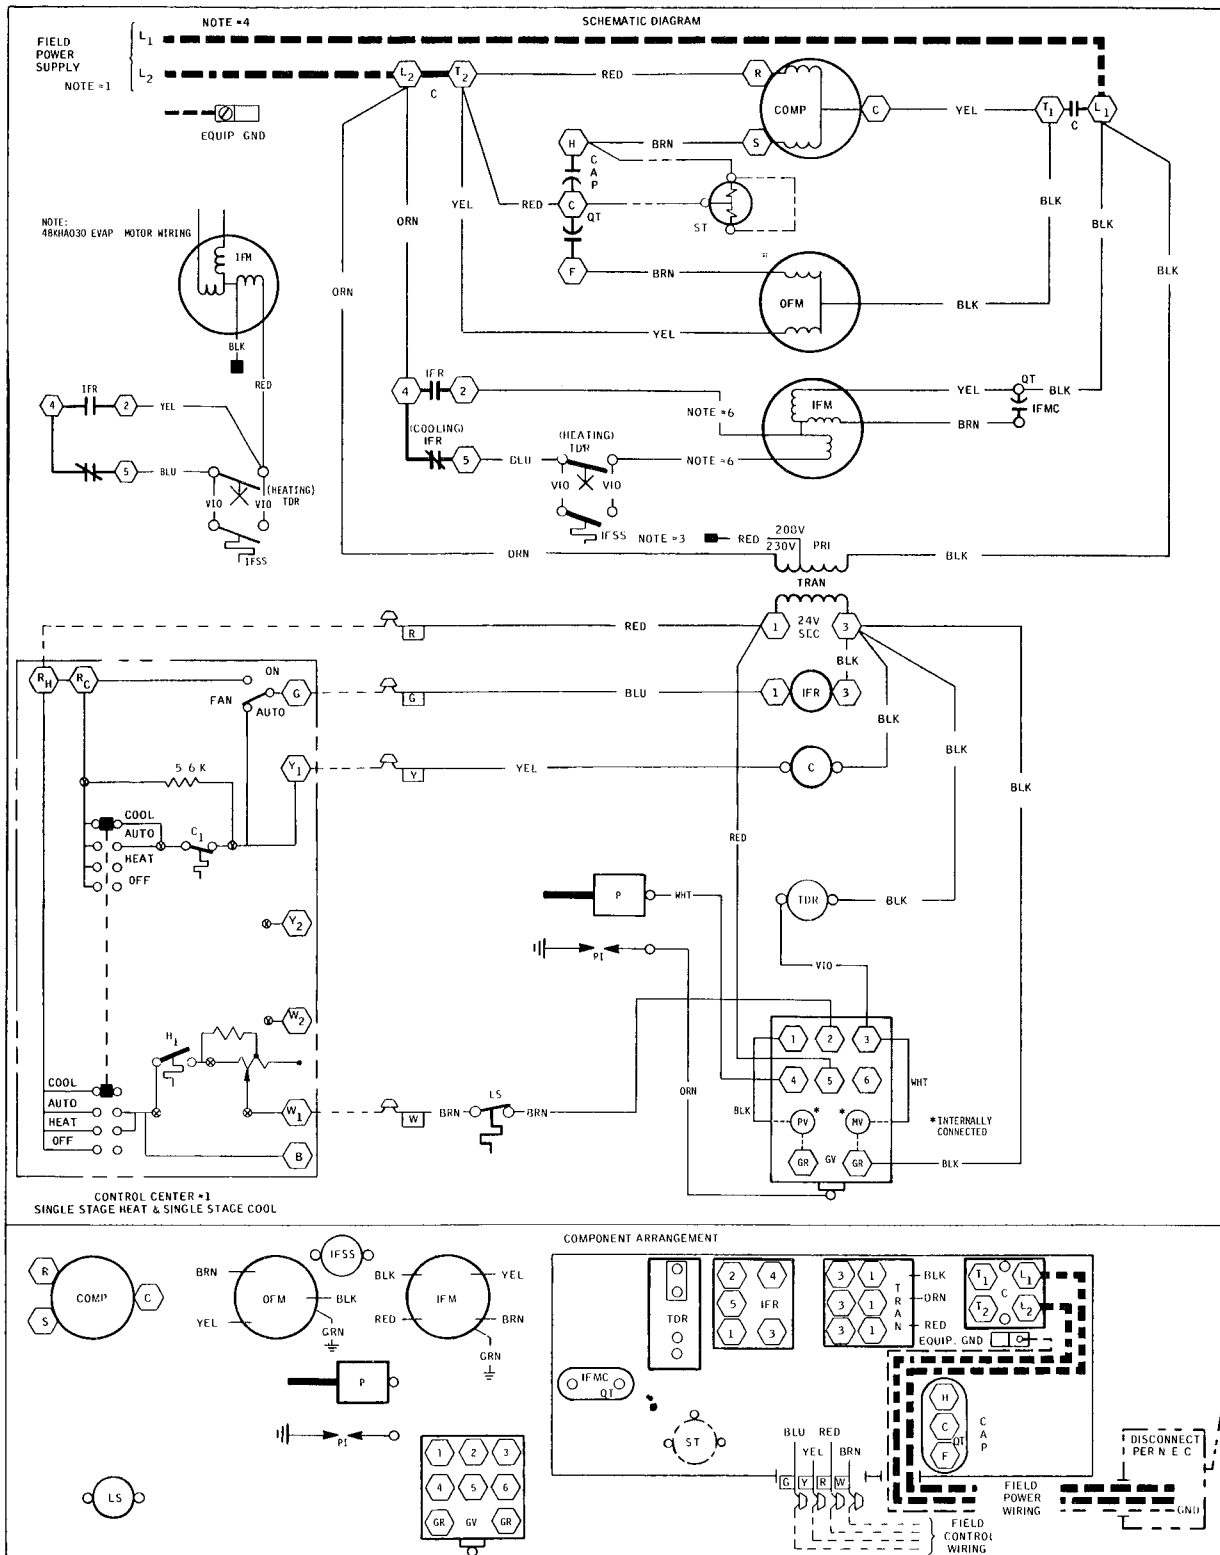

Fig. 10—Typical Wiring Diagram (48KHA030310 shown)
**HEATING SEQUENCE OF OPERATION**—See Fig. 10
**LIMIT AND PRESSURE SWITCHES—**Furnace limit switch (see Fig. 10) closes gas valve if leaving-air temperature exceeds 175 F.
Normally closed limits switch completes control circuit through pigtail lead W to gas valve 5F. See Fig. 10. Should leaving-air temperature rise to 175 F, switch opens and W control circuit breaks. Any interruption in W control circuit instantly closes gas valve and stops gas flow to burners and pilot. Blower motor continues to run until time-delay sequence of heat relay is completed.